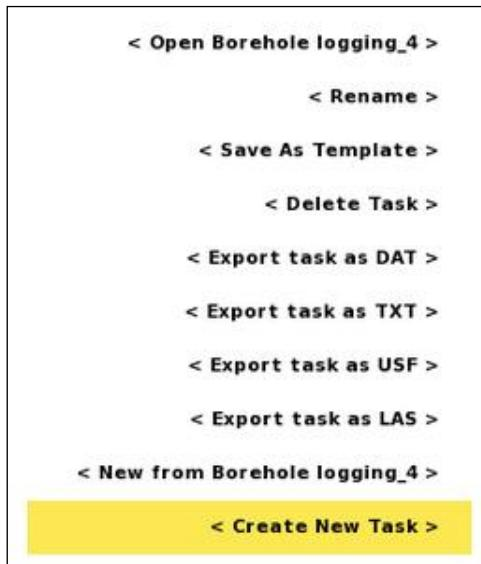

Figure 22 Task option menu with the *Create New Task* item highlighted
- Press <Options> and the option menu of Figure 22 will be shown